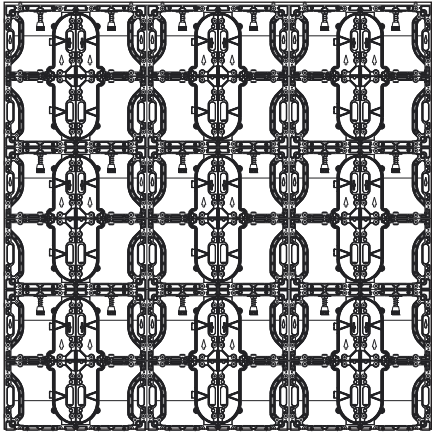

Figure 8: Install Tubes
9. Continue attaching panels up to the top row. Refer to Figure 8.